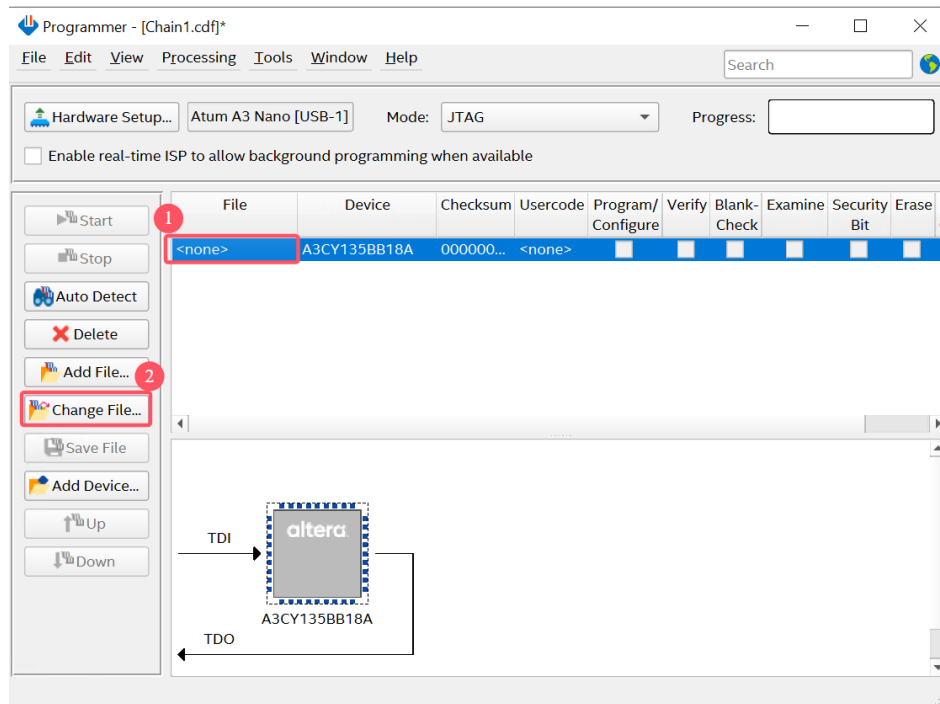

Figure 3-6 Open the .sof file to be programmed into the FPGA device
5. Right click on the FPGA device and open the .sof file to be programmed, as shown in **Figure 3-6**.